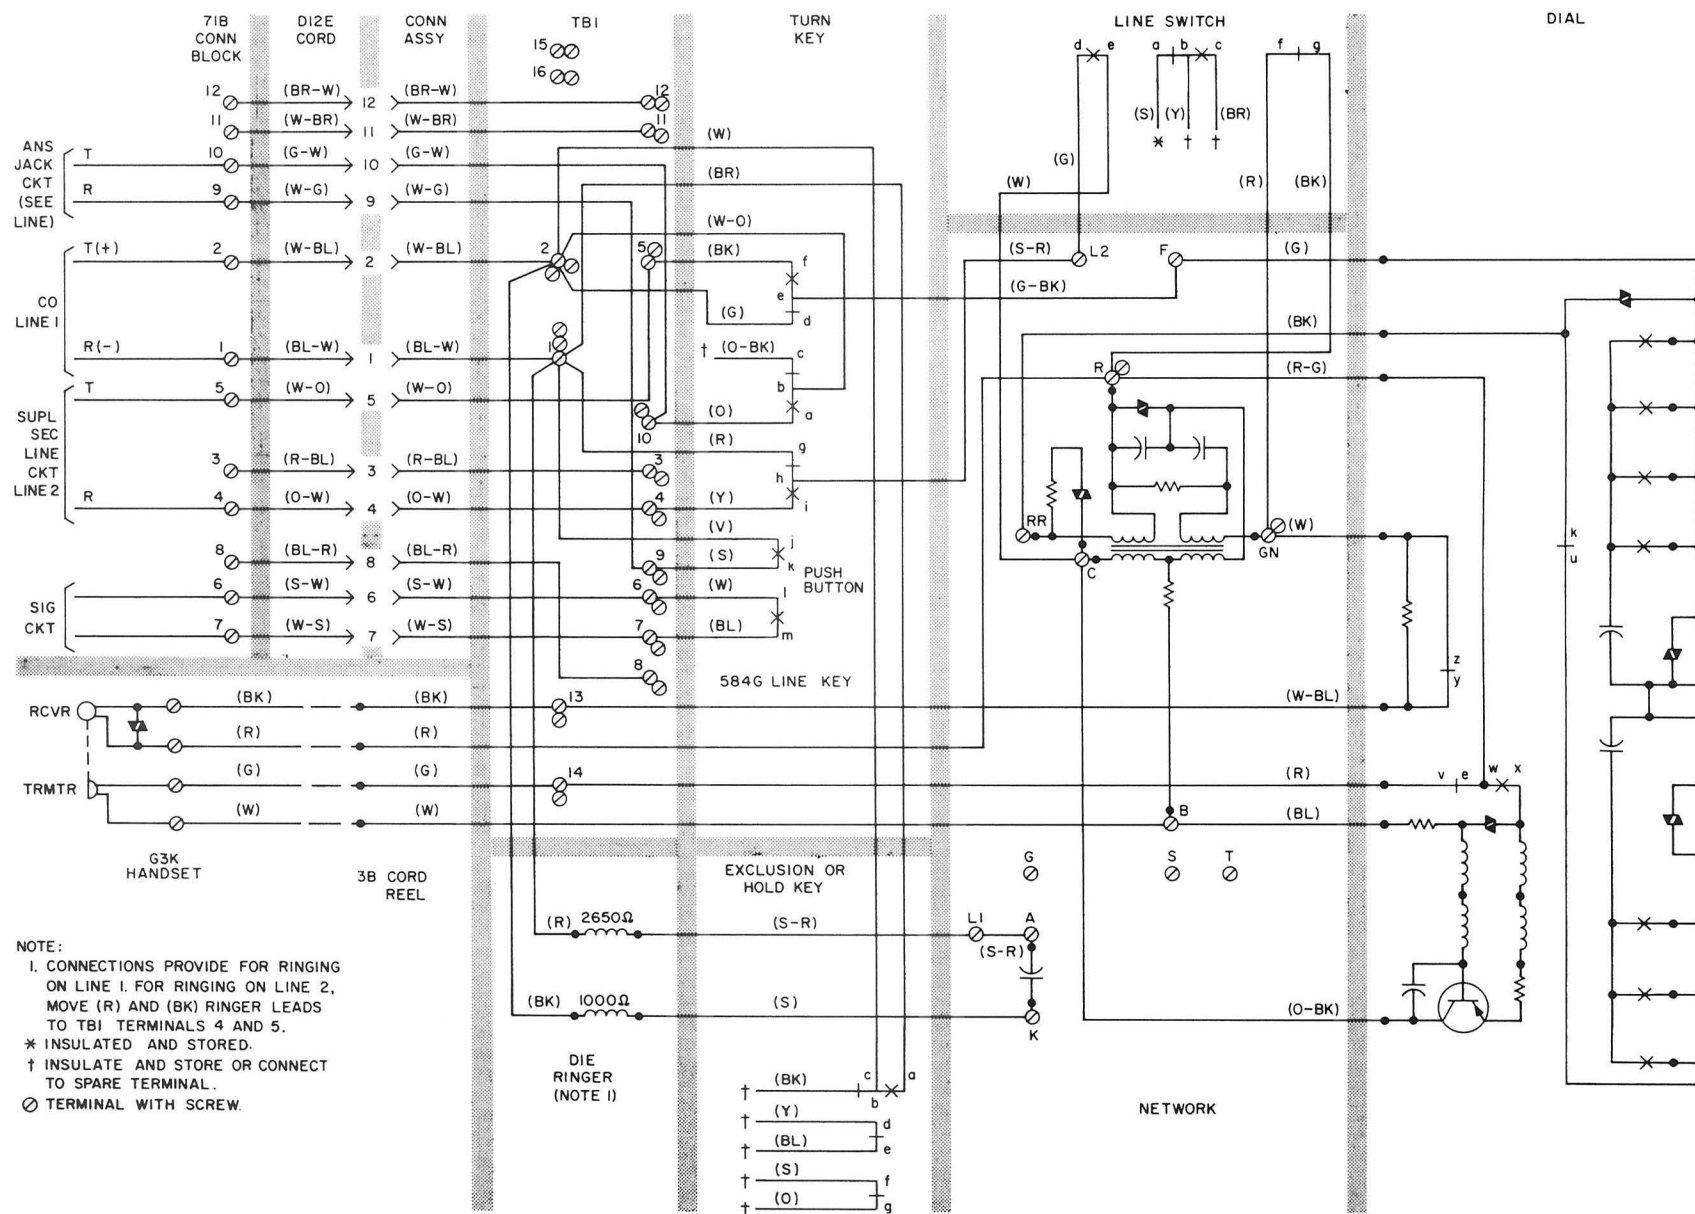

Fig. 5—2751C-58 (MD) or 2751D-60 (MD) Telephone Set Connections, Wired For Secretarial Service, Signaling, and Hold (Nonkey System)†
5.02 Refer to Table D or E and Fig. 5 and 6 or 8 and 9 for conversion connection information.